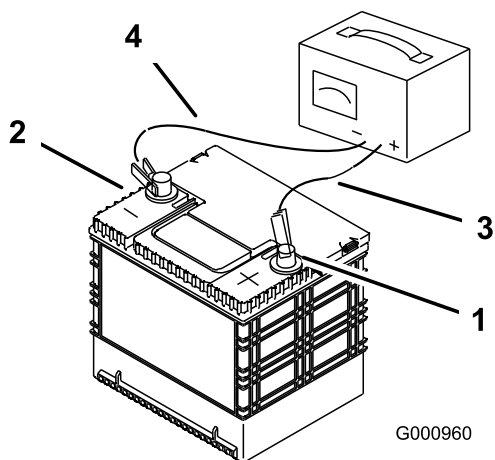

Figure 69
2. When the battery is fully charged, unplug the charger from the electrical outlet, then disconnect the charger leads from the battery posts (Figure 69).